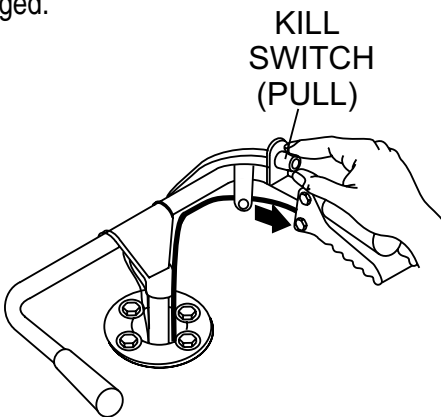

Figure 8. Kill Switch OFF
1. Before attempting to start the power buggy, make sure that the **safety kill switch** (Figure 8) is not pushed in. The power buggy will not start with the kill switch engaged.